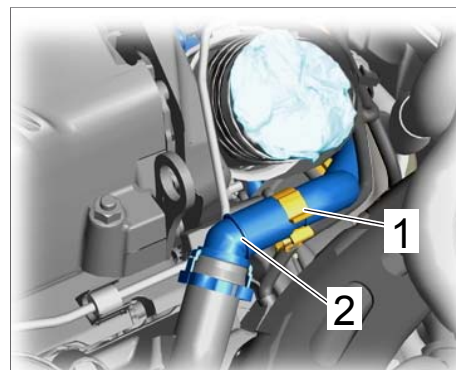

Figure 27
- 5.37 Connect and lock positive crankcase ventilation line ⇒ *Figure 27 -item 2-* on the cylinder head cover.
- 5.38 Clip in wire clip ⇒ *Figure 27 -item 1-* on the positive crankcase ventilation line ⇒ *Figure 27 -item 2-*.